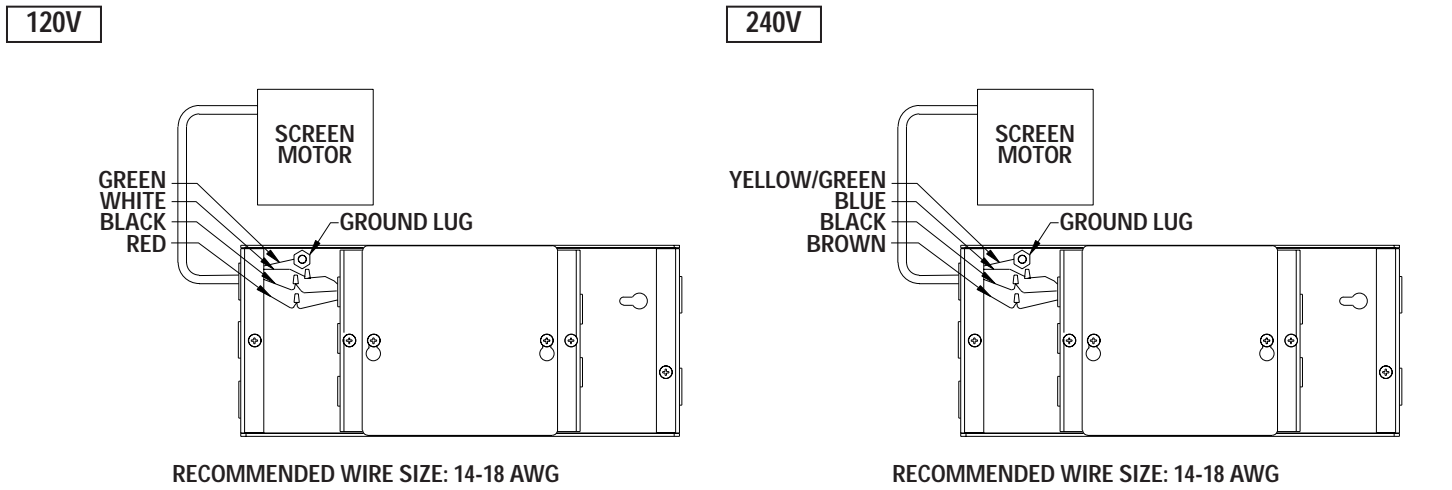

FIGURE 2
2. Connect the extended wires from the screen motor to the VPI wires that are labeled "motor wires". Refer to Figure 2.